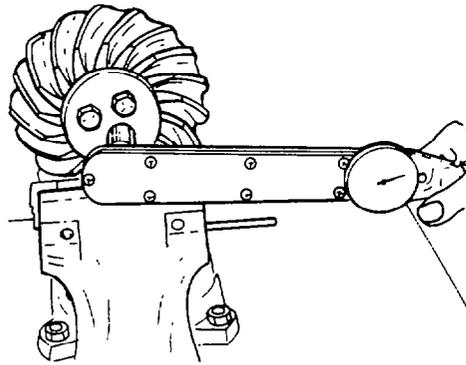

Fig. 317 — Installing Clamp Plate
- f. Position the pinion shaft assembly in a soft jawed vice, align the clamp plate and install the retaining bolts (see fig. 317). Torque the bolts to 75 – 100 Nm (55 – 75 lb.ft).